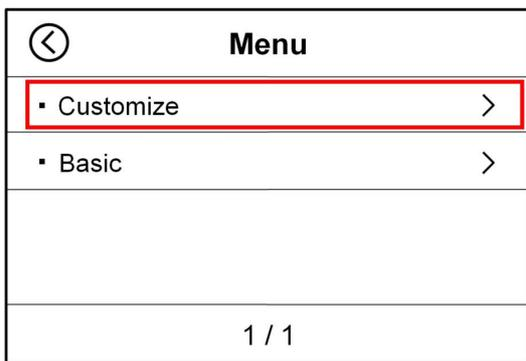

Figure 39
1) Press the “” key to enter the main interface of USER MENU, as shown in Figure 39 below. Press “**Customize**” to enter into Customize Settings, as Figure 40.